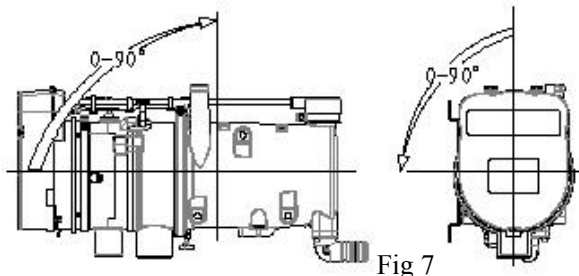

Fig 7
4.2.3 Choice of position for installation of the main equipment shall keep the air from the water pipe discharge normally. It is allowed to incline to suit different arrangements for installation, but deviation from the “normal installation position” shall not exceed 90° , as shown in Fig. 7.